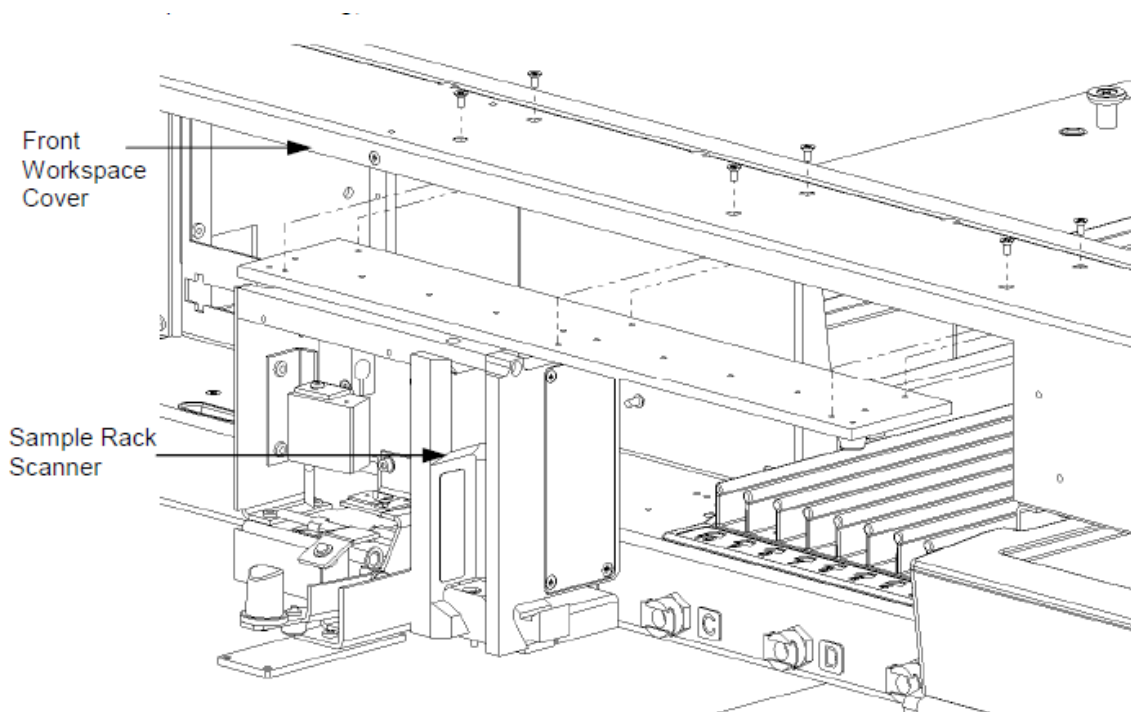

Figure V-4: Removing the Sample Rack Scanner Assembly
4. Remove the Sample Rack Scanner Assembly from the front workspace cover by unscrewing the six M3x6 Posi Flat Head Screws (Figure V-4). The Sample Rack Scanner body will need to be in the leftmost position for removal. When replacing the assembly, use Loctite 222 on the screws.